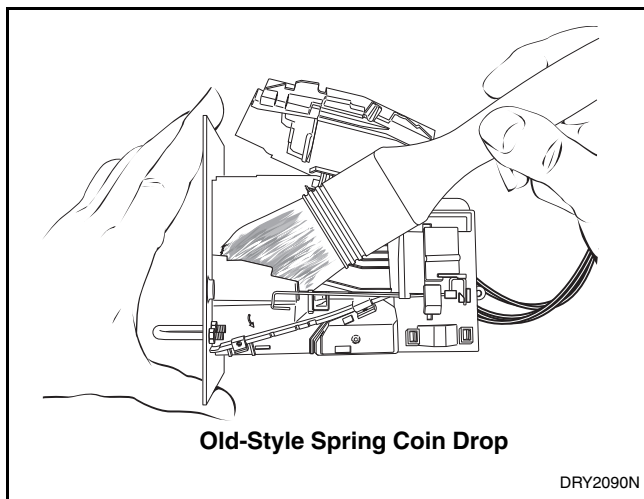
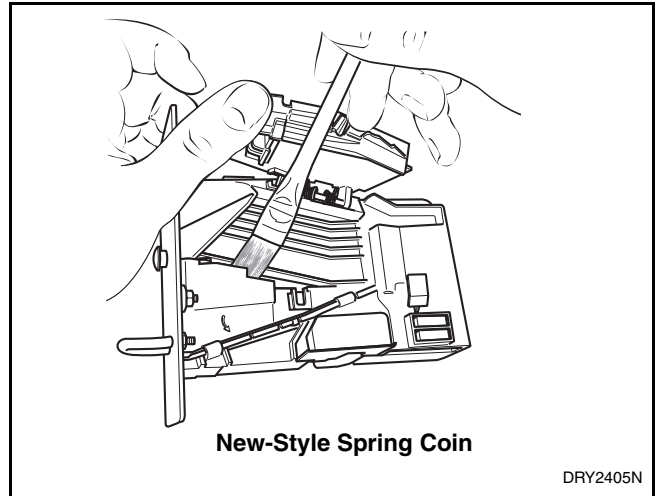

Figure 29
Figure 30
- d. Clean the coin path with a soft brush and wipe exposed surfaces with an alcohol moistened cloth. Refer to *Figure 29* or *Figure 30*.